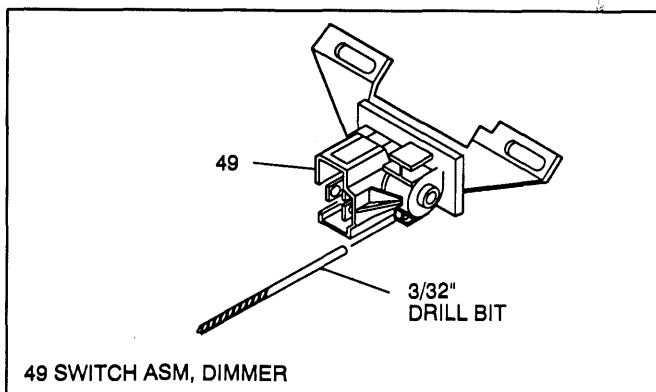

Figure 14 - Adjusting Dimmer Switch
- Dimmer switch (49). (See Figure 14)